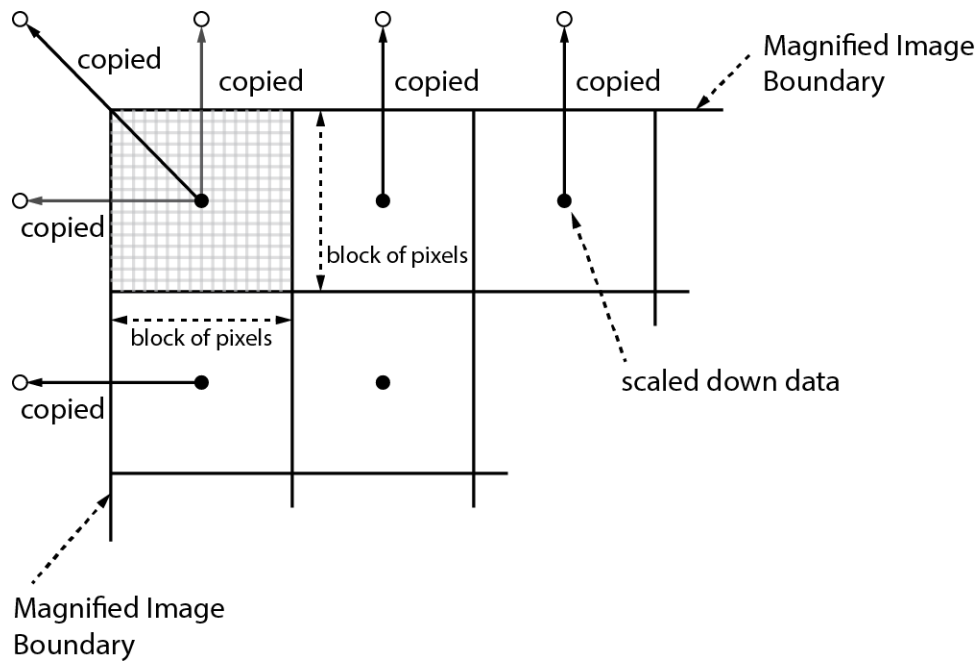

Figure 9.10 Bilinear Interpolated Magnification
3. Execute the **Flat Field Data Save** parameter to save the generated Flat Field data into the non-volatile memory. When the scaled down Flat Field data are used for corrections, they are expanded and applied with a Bilinear Interpolation as shown in the Figure 9.10.